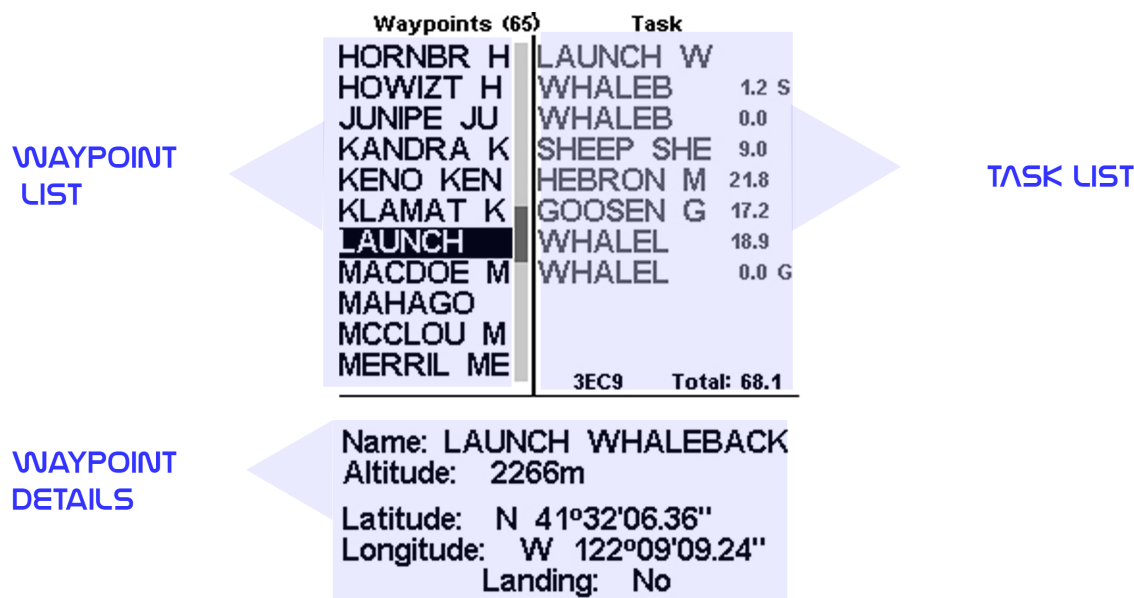

Figure 4.2: Waypoints and RouteScreen
The Waypoints/Routepage allows the user to manage waypoints, and define a route/task. As shown in Figure 4.2, the page is divided into 3 areas, namely the waypoint list (WL); Routelist (TK) and selected waypoint details/options list (DO). The DO area can change according to which submenu you are in. Specifically, it can show the selected waypoint data, or a list with possible actions for the waypoints. Entering the page activates the WL area. At the top of the page next to the title Waypoints, is the total number of Waypoints stored in the GPS SD instrument¹. The first waypoint on the list appears highlighted, and the corresponding data of the selected waypoint is shown in the DO area. As the cursor is moved to a different waypoint so the data changes matching the newly selected waypoint. If the waypoints list is empty a list of available actions is shown in the DO area. Since no waypoint exists only the *Insert new Waypoint* action is available.